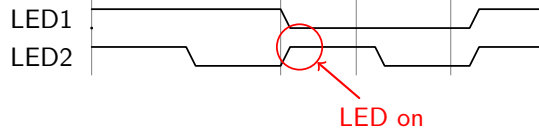

Figure 7: Two RTOS tasks running in parallel
- Verify both LEDs are blinking in parallel, like the timing diagram in figure 7.